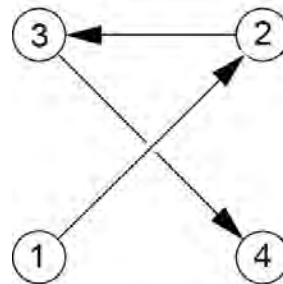

Figure 9
- (2) Install four nuts, each with a washer and a new lock washer hand tight. Refer to Figure 9 for the torque sequence for the two different size nuts that can be used:
- (a) Torque the nuts in crisscross pattern (Figure 9) to an initial torque of 48 in.-lb. (5 Nm).
- (a) Torque the nuts in crisscross pattern (Figure 9) to an initial torque of 90 in.-lb. (10 Nm).
- (3) During the “Operational Ground Check” in Chapter 72-00 (which is to be done after all maintenance is complete), look for fuel leaks at the fuel lines and connections during engine operation. Identify and correct the cause of any fuel leak. There must not be any fuel leaks when the engine is returned to service.